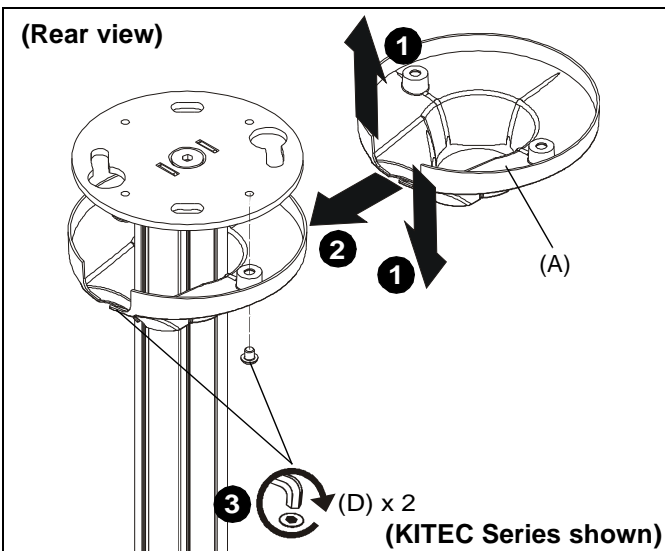

Figure 22
1. Maneuver ceiling plate cover (A) so that it is able to wrap around extension column. (See Figure 22)
2. Wrap ceiling plate cover (A) around extension column. (See Figure 22)
3. Use two M6 x 6mm button head cap screws (D) to secure ceiling plate cover (A) to CPA116 plate (A). (See Figure 22)